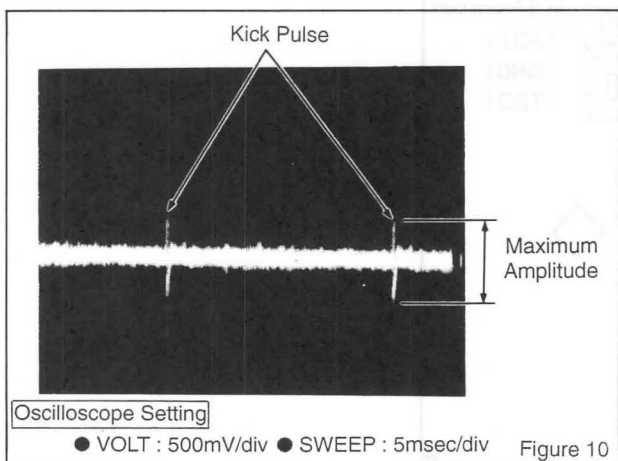

Figure 10
3. Adjust tilt sensor adjustment screw so that kick pulse (Figure 10) amplitude reads maximum.
5. Insert grating adjustment pin to the hole of bottom plate (B) [refer to Figure 15], and fine adjust the pin so that the maximum amplitude is read. [Figure 10]